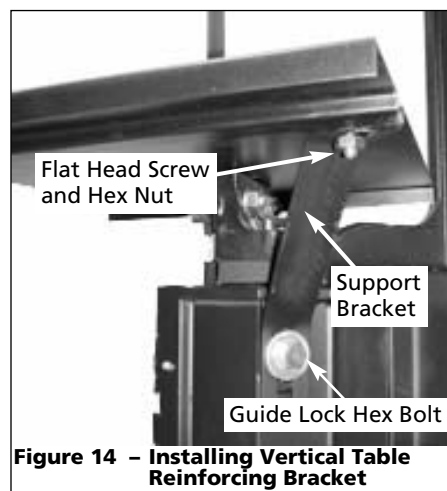

Figure 14 – Installing Vertical Table Reinforcing Bracket
6. Attach the other end of support bracket to head casting using guide lock hex head bolt and washer (see Figure 14).